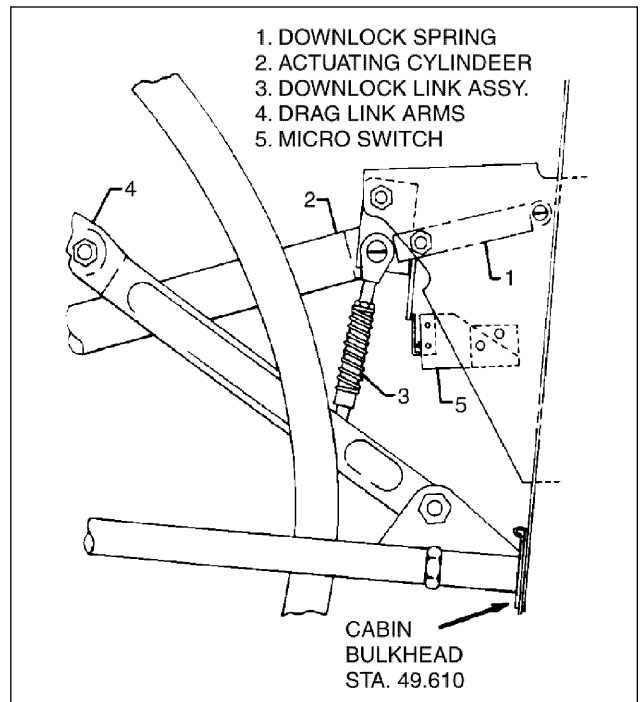

Figure 32-23. Adjust Nose Gear Down Limit Switch
- (1) To facilitate adjustment of the limit switch, disconnect gear doors.
- (2) Turn the master switch ON; move gear selector switch to the gear up position and raise the landing gear. Turn the master switch OFF.
- (3) Block the nose gear in the up position and slowly pull the free fall knob away from the instrument panel. This will relieve hydraulic pressure and permit the main gear to drop.
- (4) Loosen the attachment screws of the switch and rotate the switch toward the actuator tang until the switch is heard to actuate. Move the up limit switch upward .02 to .04 inches after actuation. Retighten the switch attachment screws. Remove the block from under the gear and allow it to extend slowly.
- (5) Turn master switch ON; raise gear and determine that gear limits function properly.
B. ADJUSTMENT OF NOSE GEAR DOWN LIMIT SWITCH (Refer to Figure 32-23.)